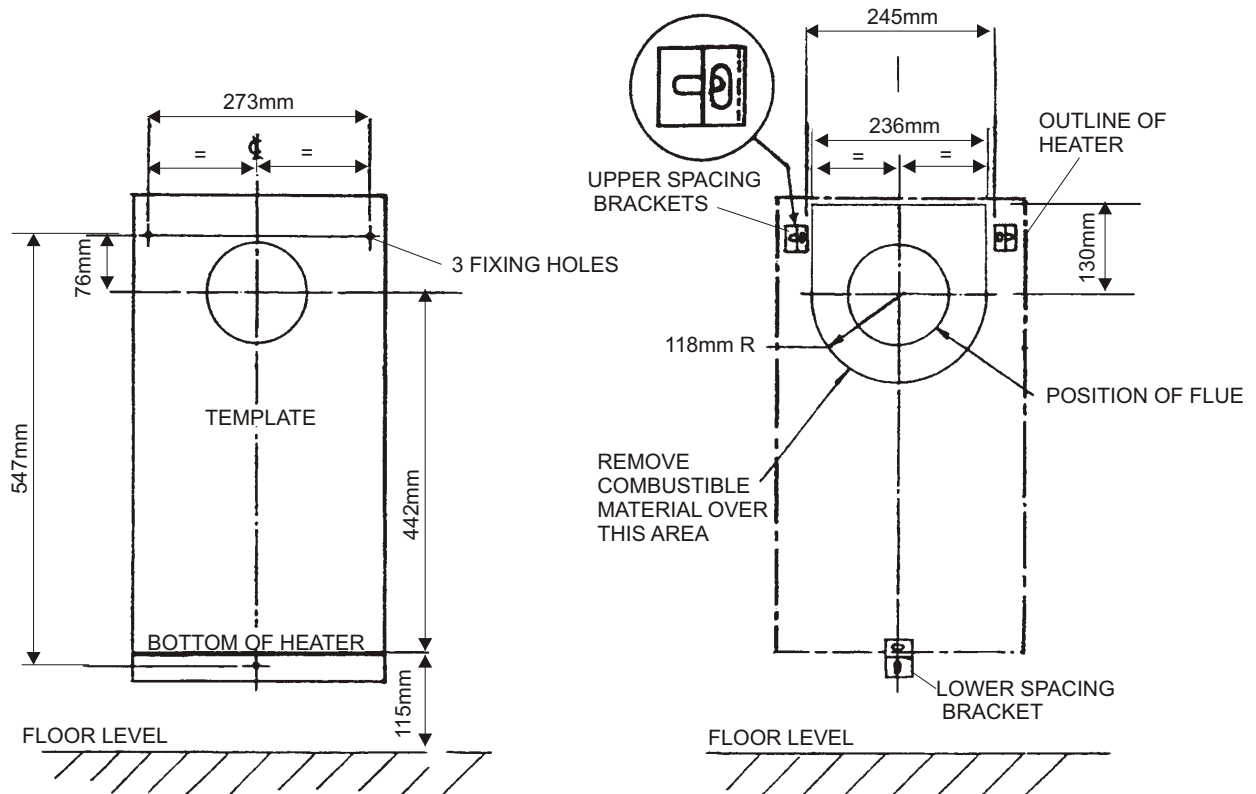

Fig 3
- (7) These Instructions and a template, representing the heater full size, indicating the position of the air inlet duct and fixing screw positions (see Fig. 3).
2. Using the template supplied, place it against the wall. Ensure that the top is level and that the line showing the bottom of the heater is at least 115mm from the finished floor level, allowing for carpets etc. Check that the clearances specified on Page 4 are complied with. Mark the positions of the flue and the three fixing holes (see Fig. 3) and remove the template.
5. Remove any combustible wall cladding as shown in Fig. 3.
6. Fit the two upper fixing brackets to the wall using the woodscrews provided leaving at least 245mm between them, as shown in Fig. 3.
1. Remove the combustible material in the area shown in Fig. 3. Replace it with non-combustible material such as Superlux Board, adding whatever support is necessary to make a flush surface.
1. Lift the bottom of the case slightly to clear the fixing nuts and slide it upwards to free it completely. Put the case to one side. Remove the two screws from the dressing strip and put that to one side also. Place the heater face down on the packing (Fig. 5.1) as shown in Fig. 5.2. Ensure that the gas cock spindle is clear of any obstruction and the floor. Fit the lower spacing bracket to the rear face of the backplate in the position shown in Fig. 3, using M5 screw, nut, lock and plain washer.